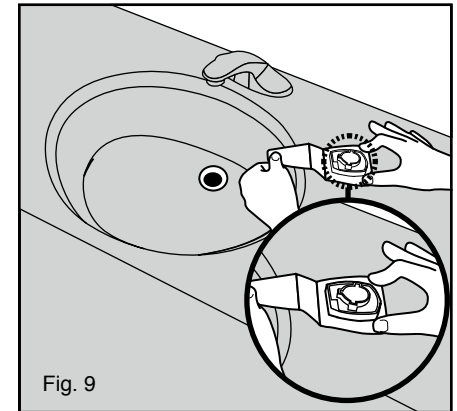

Fig. 9
10. Place the plastic template over the support shaft. Rotate the support shaft until the exact location of the soap discharge head is reached. Remove the template and discard (see figure 9).